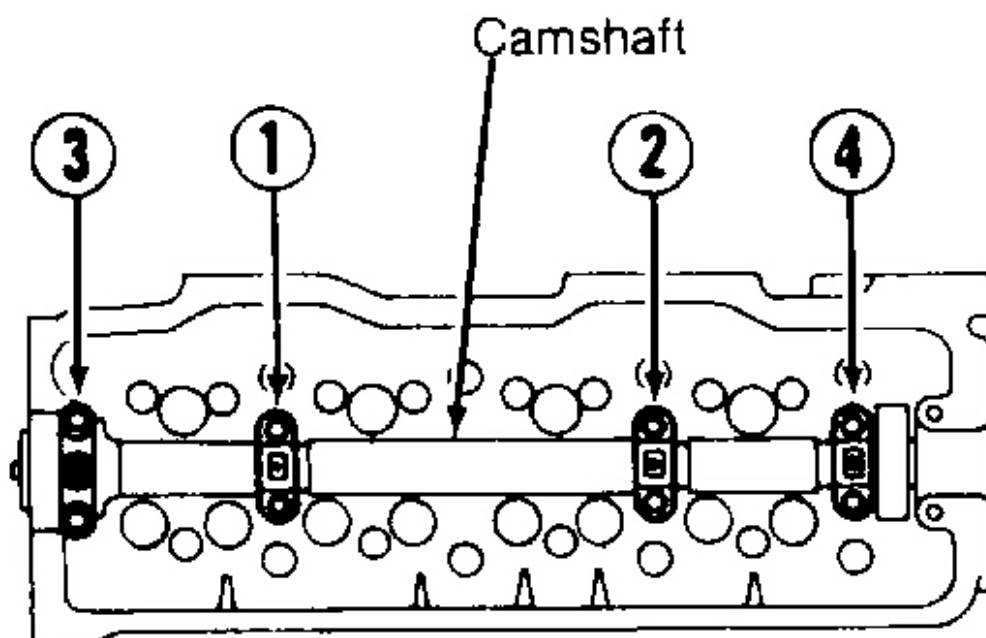

Fig. 9: Camshaft Bearing Cap Bolt Installation Sequence
2. Loosen camshaft bearing cap bolts in reverse of tightening sequence. See **Fig. 9**. Remove camshaft oil seal and camshaft bearing caps. **DO NOT** remove distributor bearing cap. Keep bearing caps in order for reassembly reference. Remove camshaft.
3. Install No. 1 bearing cap. Tighten each bearing cap bolt in proper sequence. See **Fig. 9** . Tighten all bolts to specification. See **TORQUE SPECIFICATIONS** table.